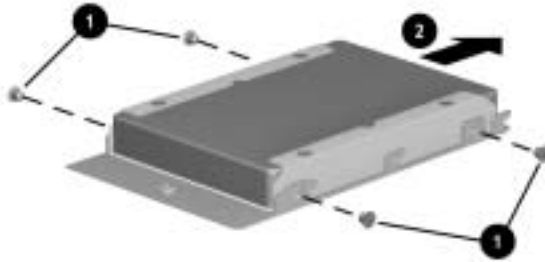

Figure 5-8. Removing the Hard Drive Bracket
7. Remove the four PM3.0 × 3.0 screws ❶ that secure the hard drive to the hard drive bracket (Figure 5-8).
8. Slide the hard drive out of the hard drive bracket ❷.